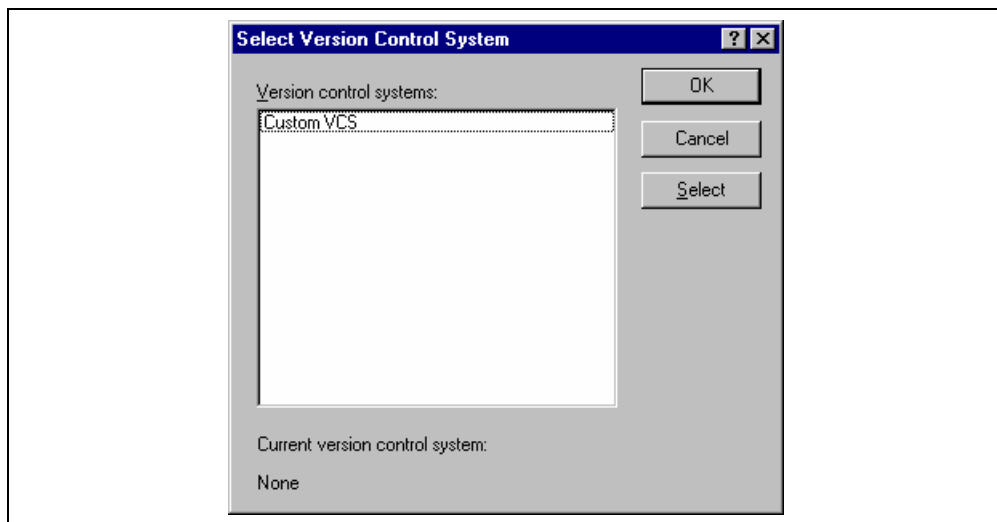

Figure 7.3: Select Version Control System Dialog
1. Select **[Version Control->Select...]**. The dialog shown in figure 7.3 will be displayed. This dialog lists all of the supported version control systems.
Note: Only those version control systems which have been installed with the HEW will appear in the “Select Version Control System” dialog (figure 7.3).